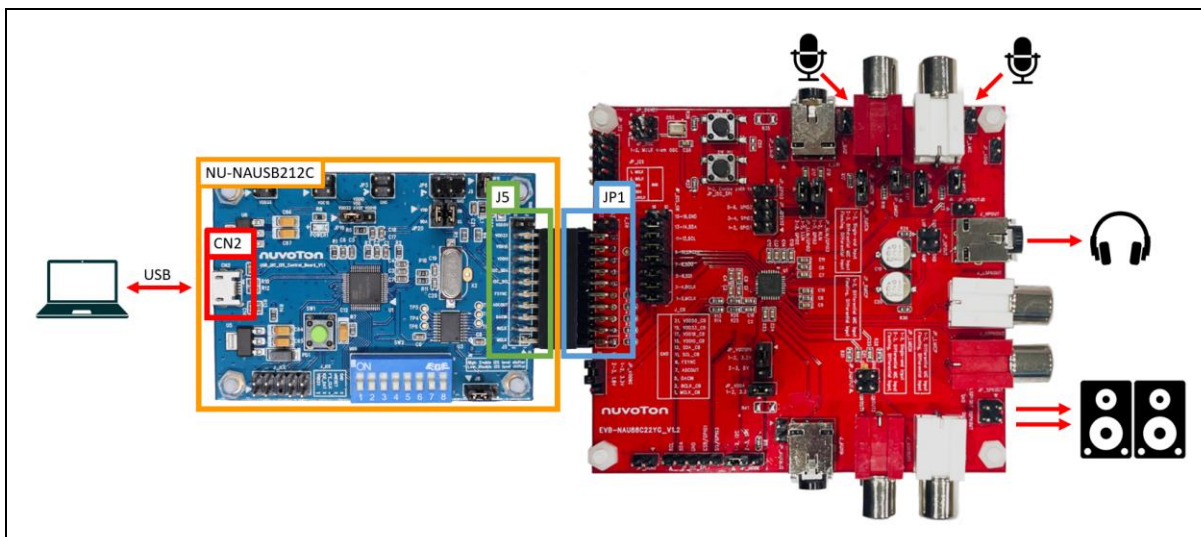

Figure 2-4 NU-NAUSB212C Connection
2. Connect J5 of NU-NAUSB212C to JP2 of NL-NAU88C22. Figure 2-4 is the diagram after two boards are connected to each other.